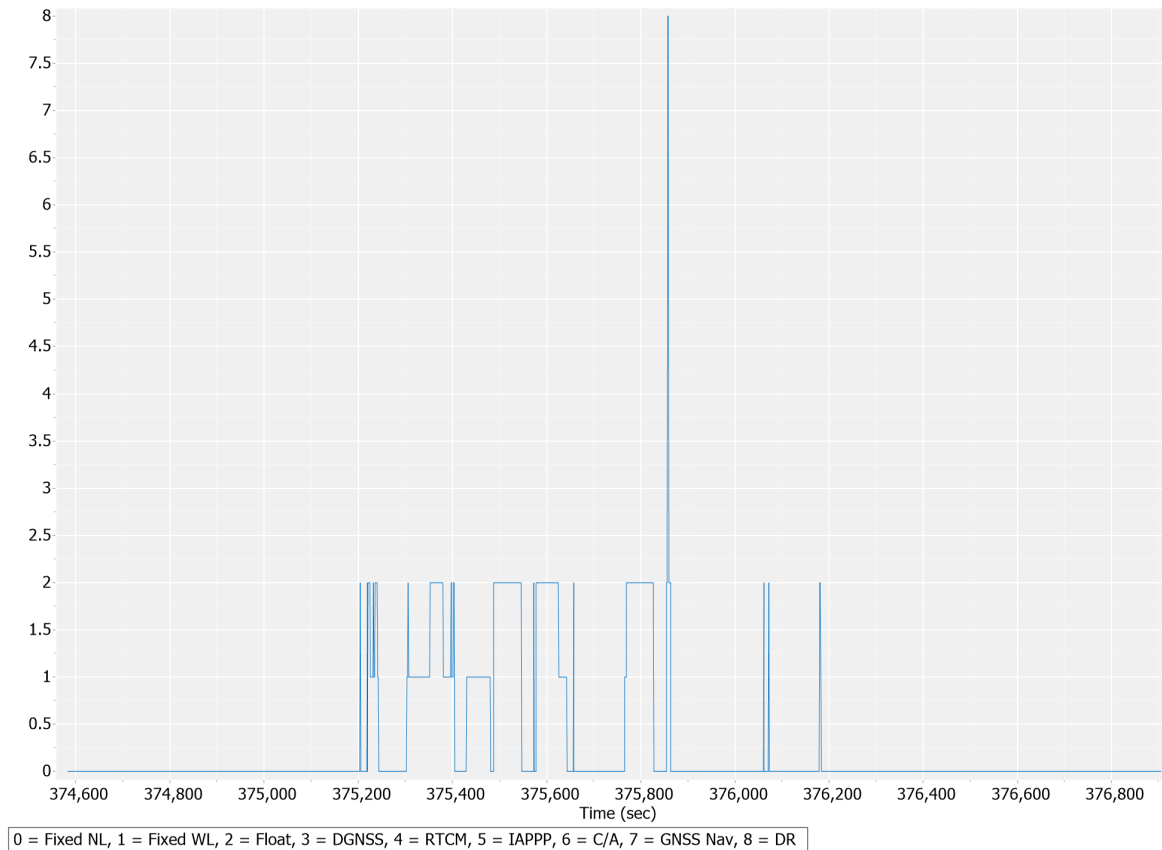

Fig 12: Processing Mode
- *Provides information about the GNSS ambiguity solution success (Fig 12)*